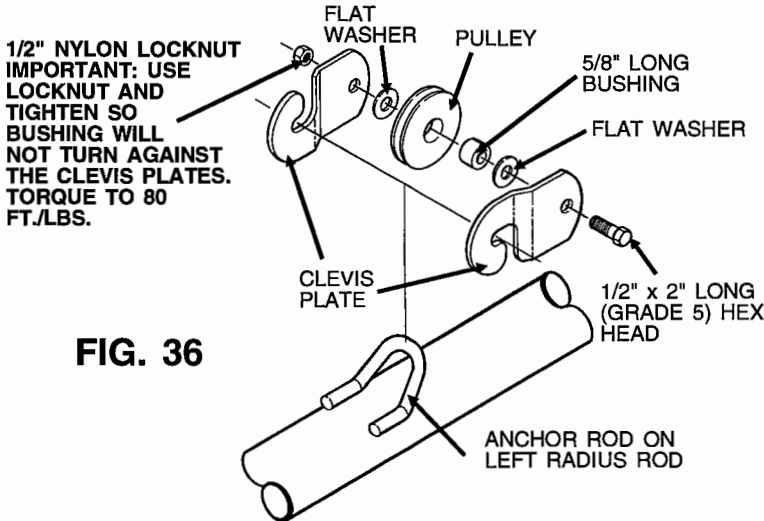

FIG. 36
Step 3. Hook clevis plates over anchor rod on left radius rod. Then assemble bushing, flat washers and cable pulley between the clevis plates using 1/2" x 2" long (grade 5) hex head capscrew and nylon locknut. After the locknut is tightened, check to see that the clevis plates are captured on the anchor rod and cannot come off. See Fig. 36.